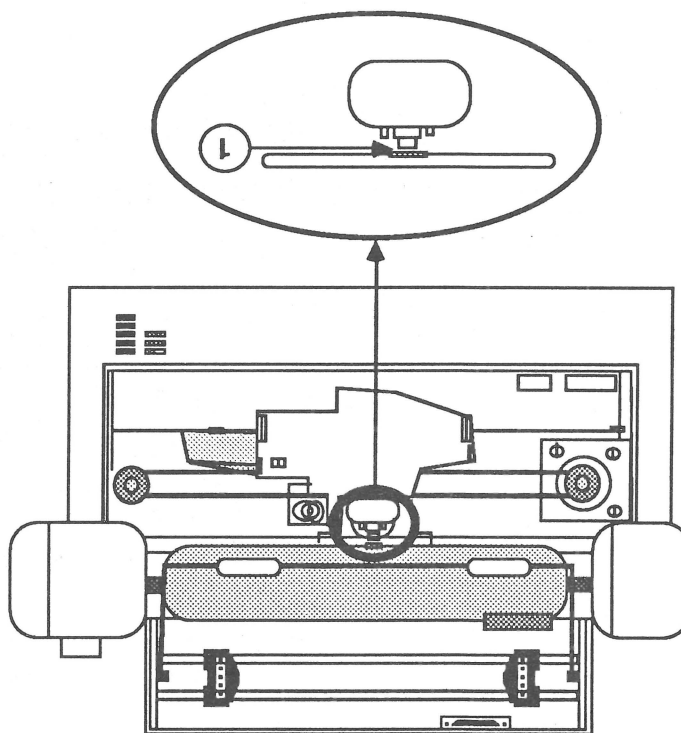

FIGURE 3
3. Push the carrier assembly to the far right. Then, using a feeler gauge, measure the gap between the front of the printhead and the metal shield on the paper guide (Figure 3, #1). Record the measurement.